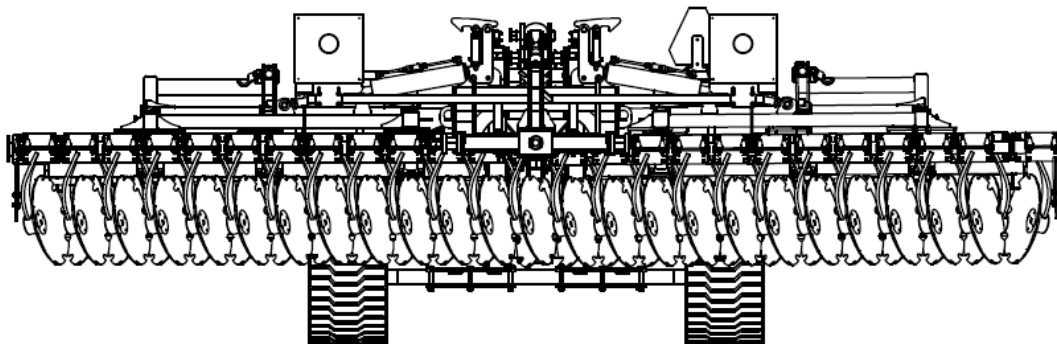

Fig. 9 View of the machine at the end of the wing opening sequence. The arms of the machine are fully open.
4. When opening the machine's wing arms, ensure that the ends of the arms are at a sufficient height to prevent them from catching the ground (fig. 9).